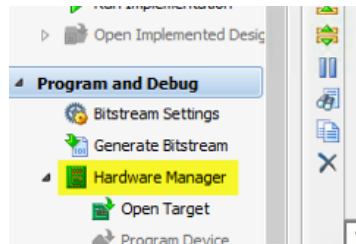

Figure 25. Starting the Hardware Manager
29. Next we need to upload to the FPGA the bit file that we've generated. From the Flow Navigator click on "Program and Debug -> Hardware Manager", as shown in Figure 25.